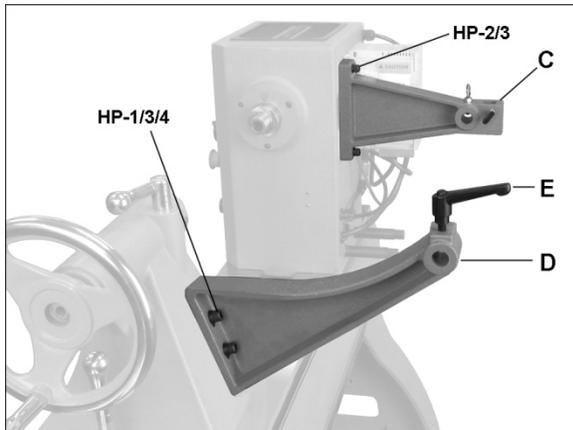

Figure 8
- Install guard bracket (C, Figure 8) with two screws and lock washers (HP-2/3).
- Install comparator bracket (D, Figure 8) to tailstock with fasteners (HP-1/3/4). The bracket holes are slotted for alignment with guard bracket.
- Install locking handle (E, Figure 8).